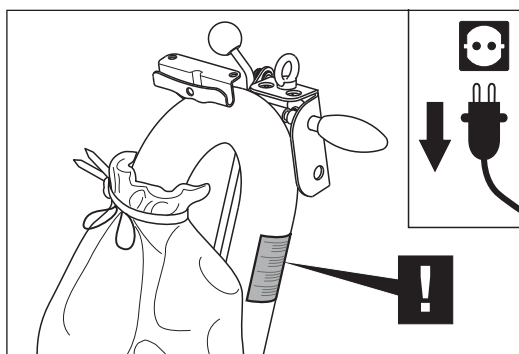

Fig. 41 **Note the warning on the guide tube!**
- **Note the warning on the guide tube (Fig. 41)!**